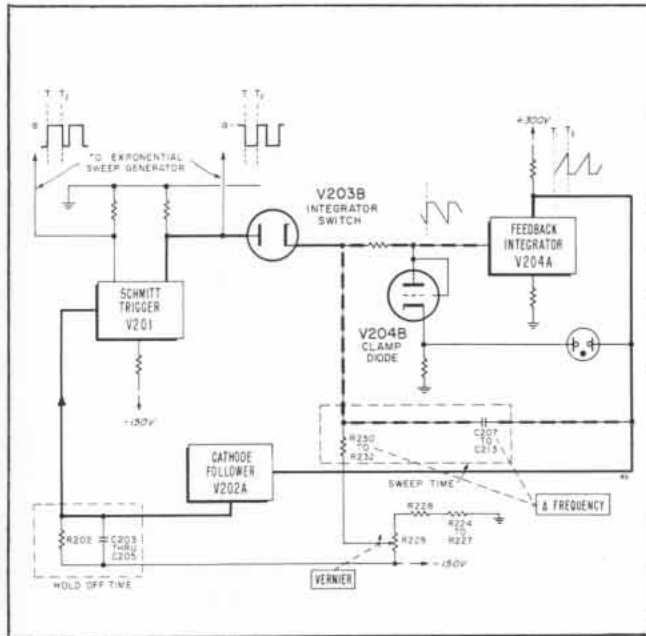

Figure 3-8. Simplified Schematic of Linear Sweep Generator
The Linear Sweep Generator (figure 3-8) consists of a Miller Feedback Integrator (V204A) which generates a linear voltage sweep whose slope can be adjusted by changing the charging rate of the integrator capacitor (C207 to C213). The Δ FREQUENCY (MC) range switch (part of which is shown in figure 3-8) changes the values of the integrator resistors (R230 to R232) and capacitors (C207 to C213) to obtain step changes in slope, while the VERNIER (R229) on the Δ FREQUENCY (MC) switch varies the capacitor-charging voltage to provide slope adjustment between steps. The Feedback Integrator is started and stopped by Schmitt Trigger V201 which shunts the integration circuit to ground through Integrator Switch V203B to prevent sweeping, and releases it from ground to start a sweep.
The Feedback Integrator is made automatically recurrent, and the output is made constant in amplitude by operating the Schmitt Trigger (see figure 3-8) from the output of the Integrator. After being unlocked by the Schmitt Trigger, the integrating circuit charges to a predetermined level established by the sensitivity of the Trigger. At this level, the feedback voltage causes the Trigger to change state. The Trigger relocks the Integrator Circuit and terminates the sweep with a rapid flyback. Trigger tube V201A is held conducting for a predetermined period of time by a charge on C205 and supplementary capacitors to allow time for circuit recovery. As the capacitors discharge, Trigger V201 returns to its original state which, in turn, unlocks the Integrator Circuit so it can generate another sweep.